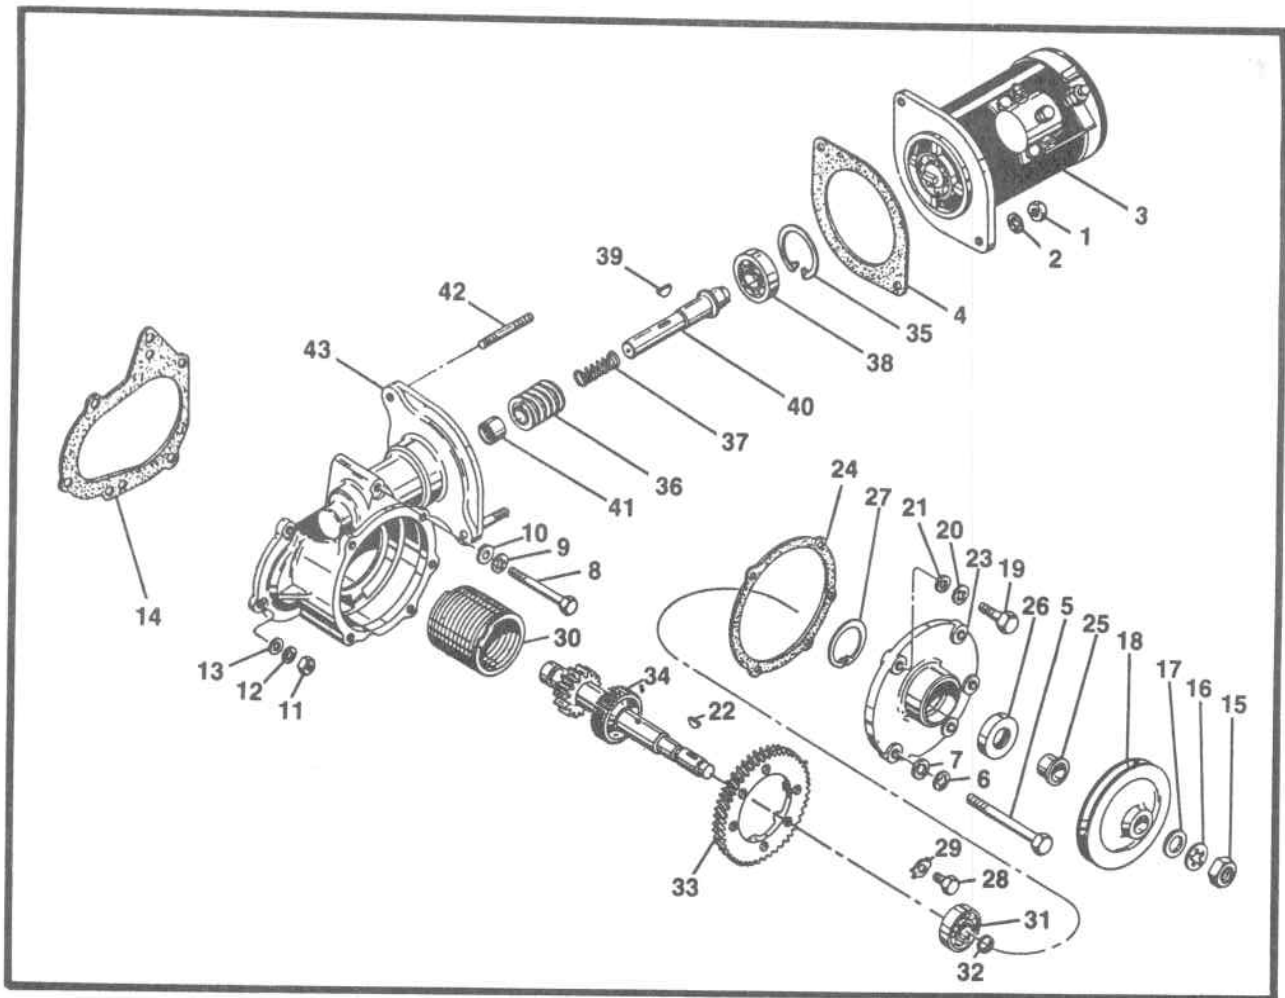

FIGURE 72-10-12. EXPLODED VIEW OF STARTER AND DRIVE ADAPTER.
72-10-12 STARTER AND DRIVE ADAPTER ASSEMBLY (See Figure 72-10-12).
- A. Remove the starter (3) and gasket (4).
- B. Remove attaching bolts, nuts and washers, except the cover attaching bolts (5 & 19, Figure 72-10-12). Pull the adapter assembly off to the rear, and remove the gasket.
- C. Start disassembly by removing nut (15).
- E. Proceed in the order of index numbers, with the spur gear still clamped in the vise until the key (22) has been tapped out, the cover attaching parts (19 through 21) removed, and the cover assembly pulled from the gear shaft, carrying with it the sleeve (25).
- F. Remove the retaining ring (27) with Truarc No. 3 or No. 23 pliers.
- G. Use an arbor press and a round metal block of slightly smaller diameter than the hole to press out the oil seal (26).
- H. To remove the shaftgear and clutch assembly from the adapter, support the rear side of the latter on blocks and tap the front end of the clutch spring (30) with a brass drift or (very carefully) with a pin punch all around.
- I. Use a wheel puller or an arbor press to press the shaftgear (34) from the drum (33) and bearing (31) after removing the worm wheel.
- J. To remove the clutch spring, clamp the drum flange between lead-shielded vise jaws. Remove the retaining screw (28) and washer (39). Rotate the spring until its depressed rear end lies across the upper 1/4 inch hole in the flange. Insert a 3/16 inch wide screwdriver blade, and pry the spring end outward clear of the drum groove. Hold it out while pulling the spring away.
- K. To remove the worm and shaft assembly, clamp the adapter between shielded vise jaws. Use Truarc No. 5 or No. 25 pliers to remove the retaining ring (35). Using arbor press remove bearing (41) from adapter (43).
- L. The worm gear may fit slightly tight on the sides of the key. Remove the Woodruff key (39) and the helical spring (37). If the ball bearing (38) is to be removed only to permit the Magnaflux inspection of the shaft, support its inner race on a sleeve with an inside diameter just large enough to clear the shaft flange, and press the shaft out. (Supporting on the outer race will damage the bearing).